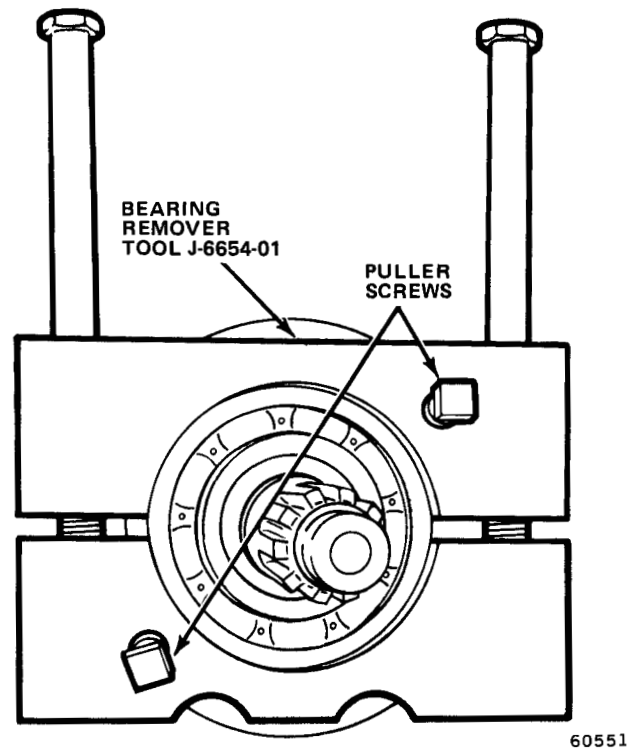

Fig. 6-6 Removing Clutch Shaft
(6) Remove front bearing cap and gasket.
(7) Remove large lockring from front bearing.
(8) Remove clutch shaft, front bearing and Second-Third synchronizer blocking ring as an assembly using Tool J-6654-01 (fig. 6-6).